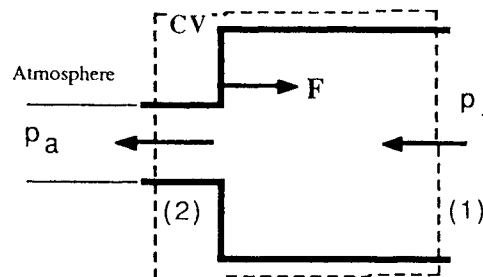

Fig. P3.42
**3.42** A liquid of density  $\rho$  flows through the sudden contraction in Fig. P3.42 and exits to the atmosphere. Assume uniform conditions  $(p_1, V_1, D_1)$  at section 1 and  $(p_2, V_2, D_2)$  at section 2. Find an expression for the force  $F$  exerted by the fluid on the contraction.